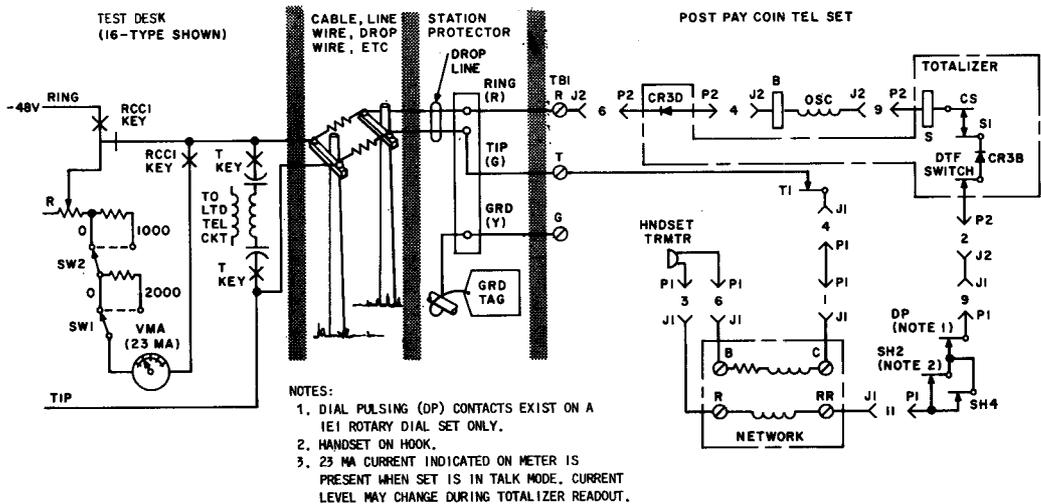

Fig. 21 — Totalizer Current Flow Test (Post Pay)
- See Fig. 21 for totalizer current flow test